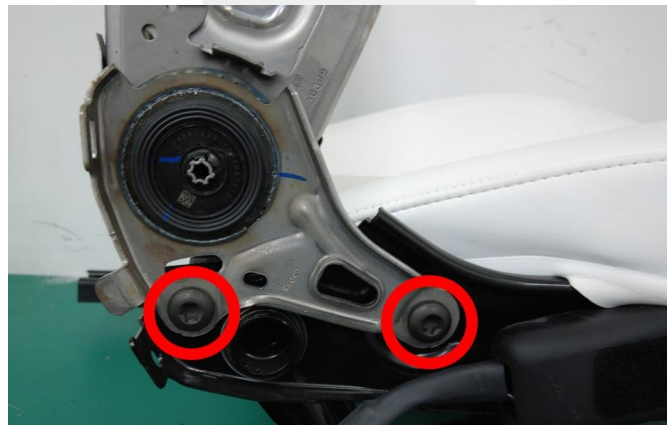

Figure 1 – LH and RH seats similar; inboard and outboard bolts similar
4. Perform a torque check on the inboard and outboard bolts (**x4 total**) that attach the seatback to the seat cushion (torque 43 Nm) (Figure 1).